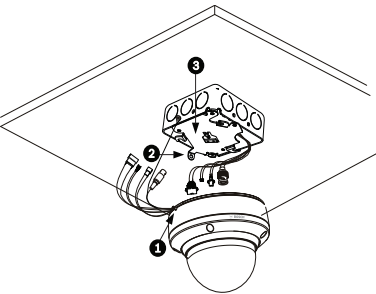

Figure 4.5 Connect Cables
- 2. Attach grounding wire from unit to junction box (see *Figure 4.5*).